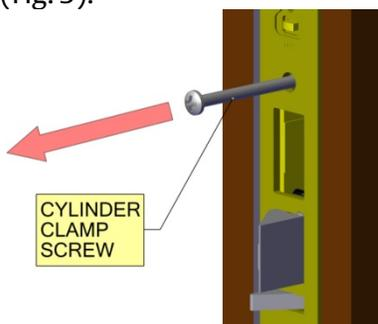

Fig. 2
- Loosen the cylinder clamp screw far enough to allow the existing cylinder to be removed (Fig. 2).